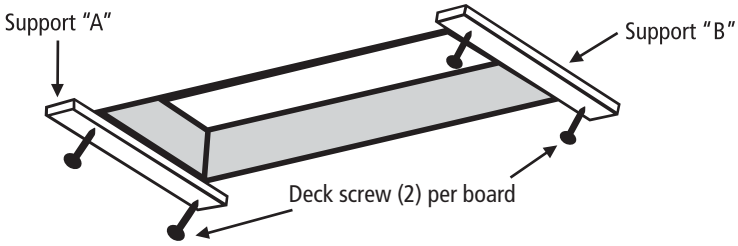
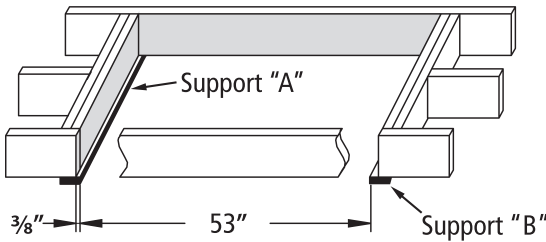

FIGURE 4: View from below
FIGURE 5: View from above
- A. Attach temporary supports "A" and "B" with 2 ½" deck screws as shown in Figure 4. Support "A" should be located at the end where the door hinge of the ladder will go. The edge of support "A" should extend into the rough opening  $\frac{3}{8}$ " as shown in Figure 5. Make sure both screws penetrate header above ceiling.
- B. Measuring from the inside edge of support "A", locate and secure the inside edge of support "B" 53" from inside edge of support "A" (Figure 5). Make sure both screws penetrate header above ceiling.